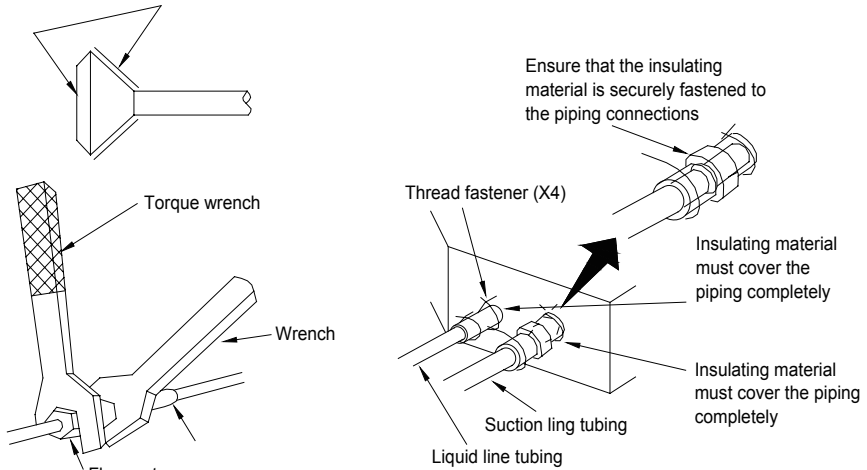

Fig. 5
◆ When connecting piping to the unit or removing from the unit, please use both a back-up wrench and torque wrench (as shown in Fig.5 below).
- ◆ Check all flare connections with soapy water or other leak detection method and if no leaks are found, then insulate all connections with the proper insulating material as shown in Fig. 5 below.